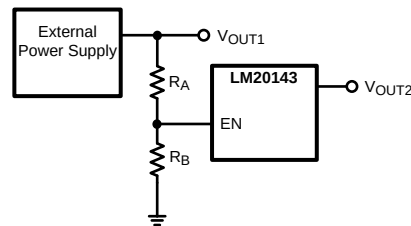

Figure 31. Sequencing LM20143 with Precision Enable
The LM20143 has a built-in under-voltage lockout protection circuit that keeps the device from switching until the input voltage reaches 2.7 V (typical). The UVLO threshold has 45 mV of hysteresis that keeps the device from responding to power-on glitches during start up. If desired the turn-on point of the supply can be changed by using the precision enable pin and a resistor divider network connected to V_{IN} as shown in Figure 31 in the design guide.
The precision enable (EN) and power good (PGOOD) pins of the LM20143 can be used to address many sequencing requirements. The turn-on of the LM20143 can be controlled with the precision enable pin by using two external resistors as shown in Figure 31.